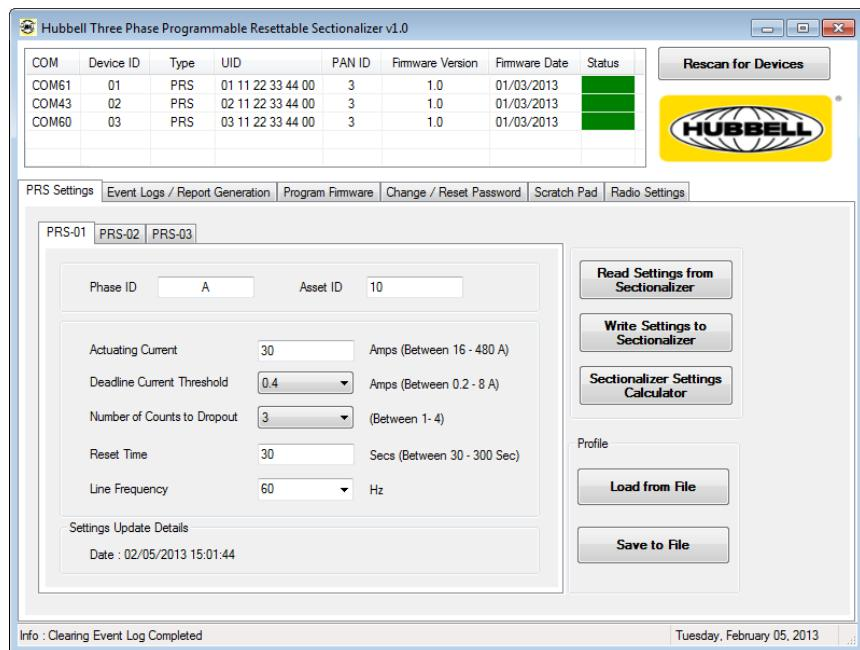

Figure 10 Settings Windows screen
4. The main settings screen called the " PRS Settings" (Figure 10) includes settings of all the 3 units connected to the computer. Settings of the 3 units in one set are displayed in separate tabs. Settings can be modified in "PRS-01" tab and upon clicking the "Write Settings to Sectionalizer" button, the same settings will be written to the other 2 units in the set. The modified settings on the other two units can be seen in the tabs "PRS-02" and "PRS-03" in a grayed out manner under their individual settings tab. User can label Phase ID and Asset ID as needed. Phase ID can be one ASCII character (letters, numbers or special characters)